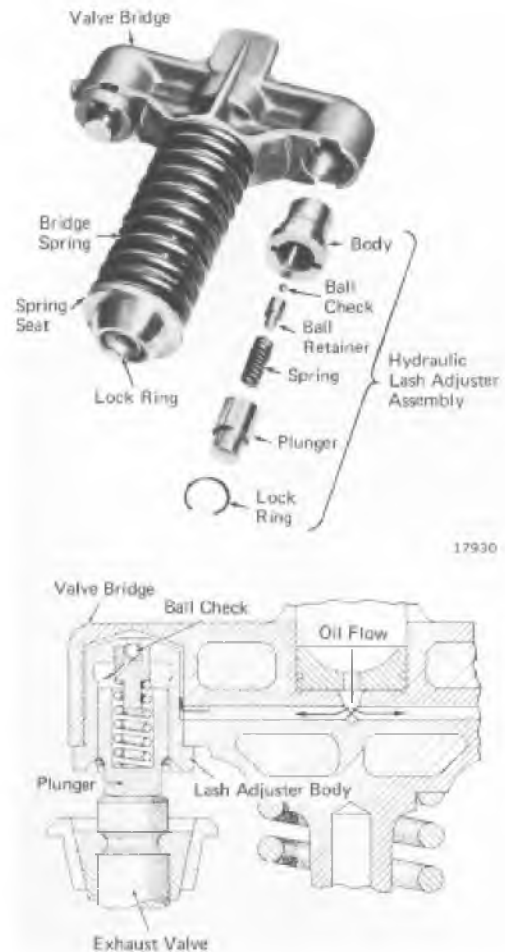

Fig. 2-23 - Valve Bridge Assembly
The valve bridge, Fig. 2-23, operates two exhaust valves from one rocker arm. A spring and spring seat are held on the valve bridge stem by a lock ring. The spring seat rests in a socket in the cylinder head and the spring applies pressure to maintain contact between the valve bridge and the rocker arm.
1. Depress lash adjuster plunger and remove locking ring, Fig. 2-23.